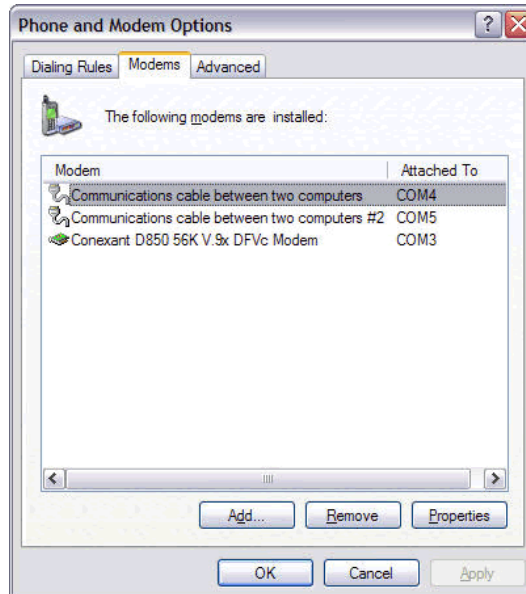

Figure 100: List of installed modem devices (Windows XP)
- d. The modem device should now have been added, and you will be returned to the modem list screen (Figure 100). Verify that the newly added modem device is now present.